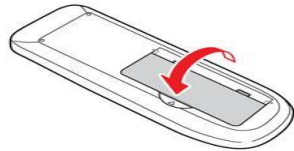

Fig. 3.4 Closing of remote control
Step 3 – Close the battery cover and press it down until it clicks into place as illustrated in Figure 3.4.
Step 4 – Close the battery cover and press it down until it clicks into place as illustrated in Figure 3.4.